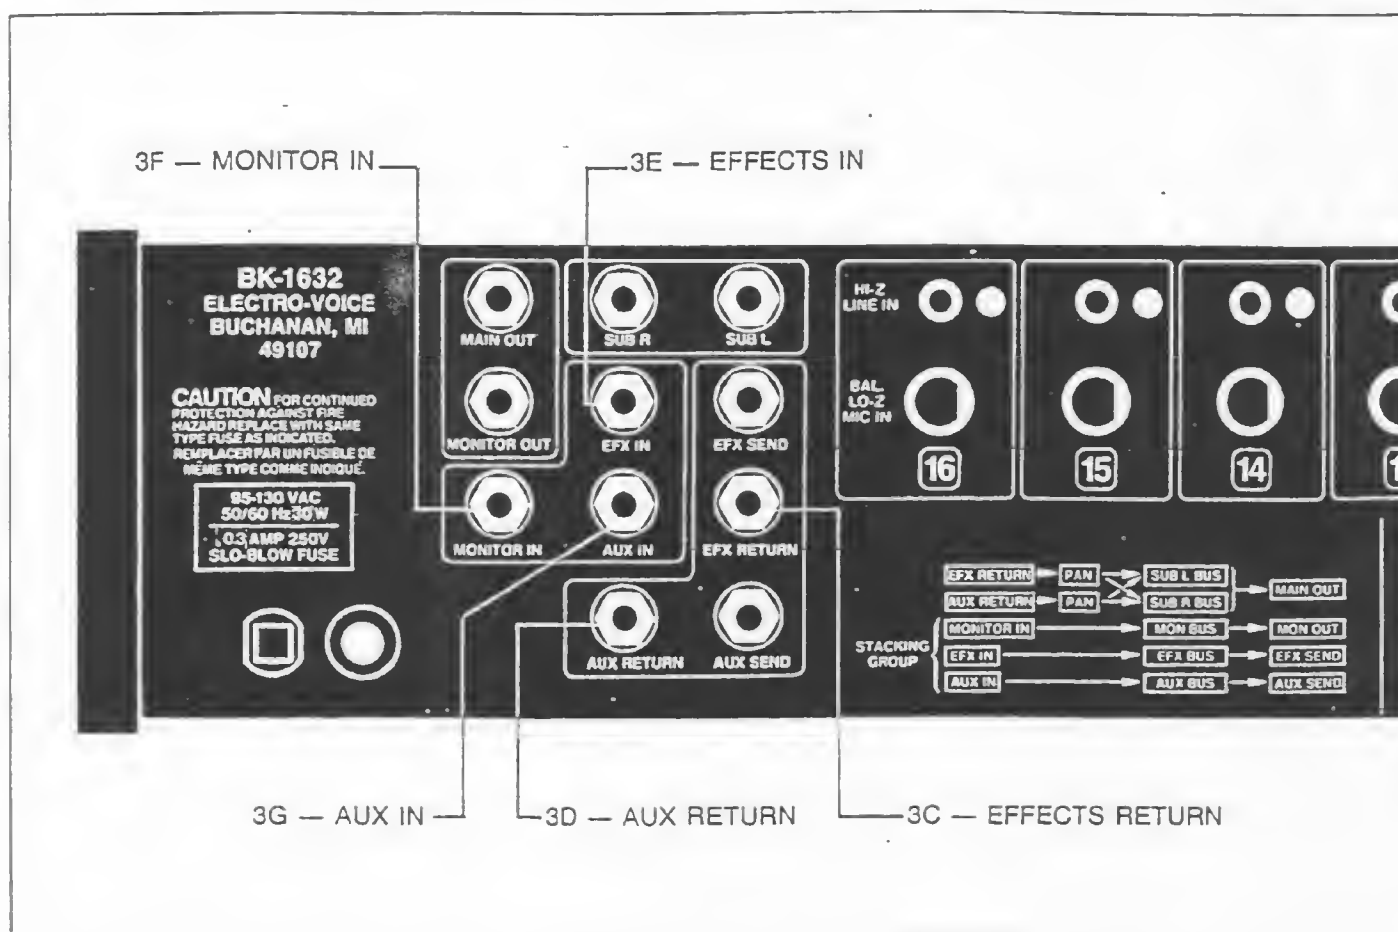

FIGURE 3 — Input Jacks
**3.0 REAR PANEL INPUT CONNECTORS (Figure 3)**